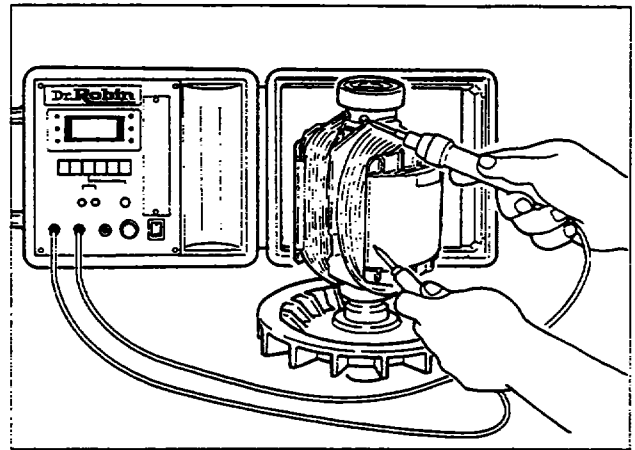

Fig. 11-6
- (3) Measure the insulation across one of the soldered terminals of the rotor and the core. (Fig.11-6)